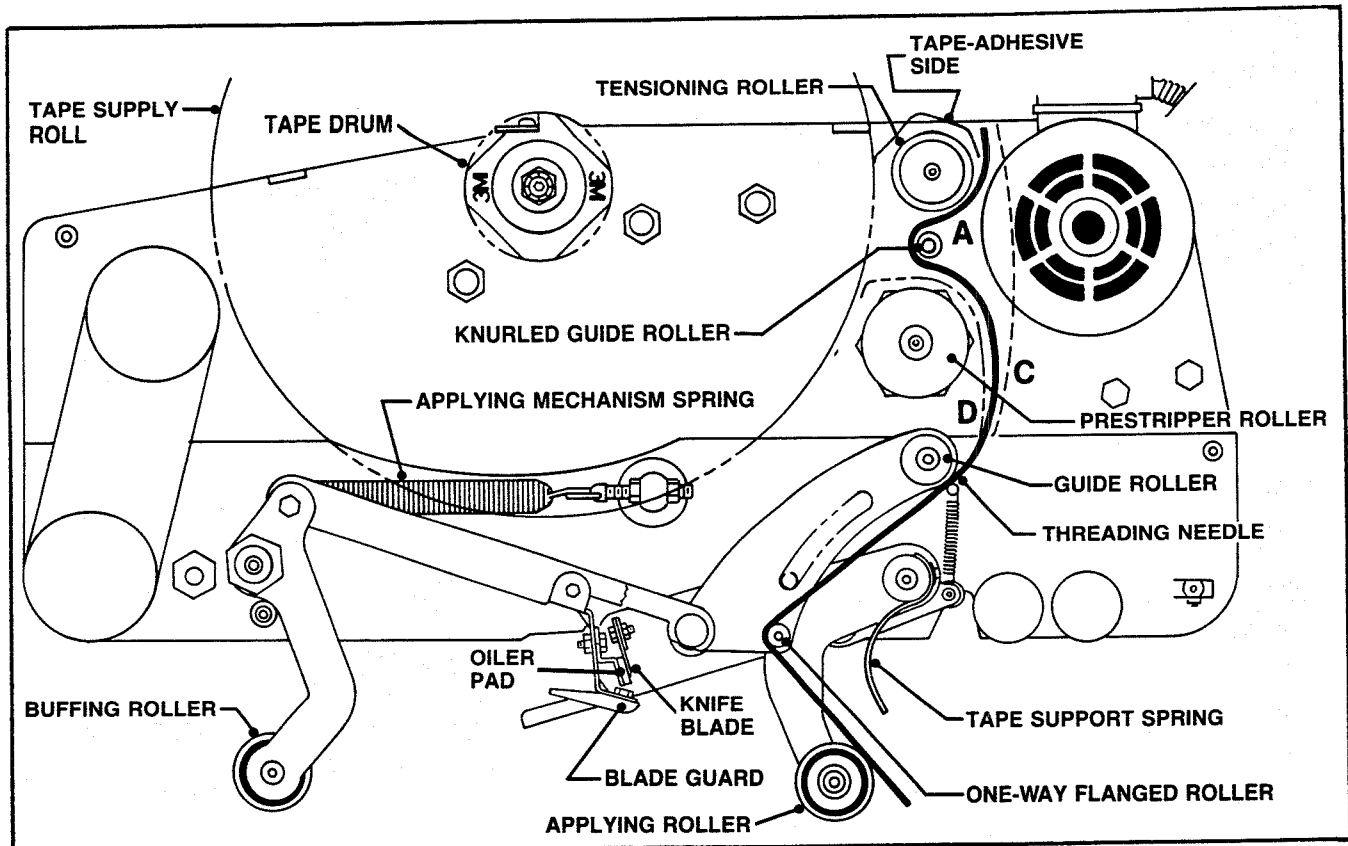

Figure 14A - Tape Threading Diagram - Top Taping Head - Left Side View
1. BOTH THE TOP AND BOTTOM TAPING HEADS UTILIZE EXTREMELY SHARP KNIFE BLADES ON THE ORANGE CUTTER LEVER ASSEMBLY AND WHICH ARE LOCATED UNDER THE GREY PLASTIC BLADE GUARD WHICH HAS THE "CAUTION - SHARP KNIFE" LABEL. BEFORE WORKING WITH THE TAPING HEADS OR ATTEMPTING TO LOAD THE TAPE, REFER TO FIGURES 14A & 15A AND IDENTIFY THE BLADE LOCATION. KEEP HANDS OUT OF THESE AREAS EXCEPT AS NECESSARY TO SERVICE THE TAPING HEADS.
2. NEVER MANUALLY PUSH THE APPLYING ROLLER ARM DOWN AS THIS WILL RETRACT THE BLADE GUARD AND PUT YOUR HAND IN MOTION TOWARDS THE TEETH OF THE SHARP KNIFE BLADES. REFER TO FIGURES 14A & 15A AND IDENTIFY THE APPLYING AND BUFFING ROLLERS. WHEN NECESSARY TO MANUALLY ACTUATE THE TAPE APPLYING MECHANISM, ALWAYS PUSH THE BUFFING ROLLER ARM AS IT WILL NOT DIRECT YOUR HAND TOWARD THE KNIFE BLADE TEETH.
The taping heads are equipped with a blade oiler pad that provides a film of oil on the cut-off blade to reduce adhesive build-up. Locate the oiler pad attached to the blade guard assembly, shown in Figures 14A & 15A, and apply **SAE #30 non-detergent oil** as needed. **Do not saturate.**
2. With the temporary threading needle already in position, as shown in Figure 14A, follow the tape loading procedure from Figure 14C to complete the tape threading with this exception; thread tape around tensioning roller, knurled guide roller and prestripper roller in one of three paths depending on the application.
Thread upper end of needle around guide roller and through path A, C or D as shown in figure 14A.